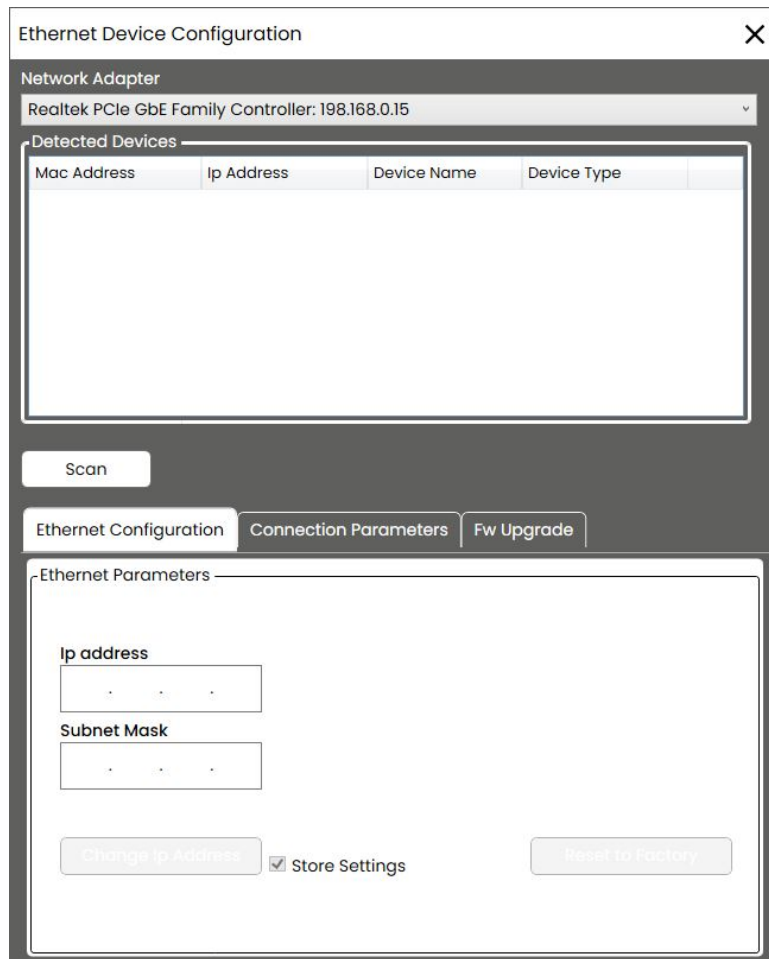

Figure 5.4: Ethernet Device Configuration
- Ethernet Device Configuration, as shown in Figure 5.4: to manage and update Camozzi devices that support this functionality via an Ethernet connection.